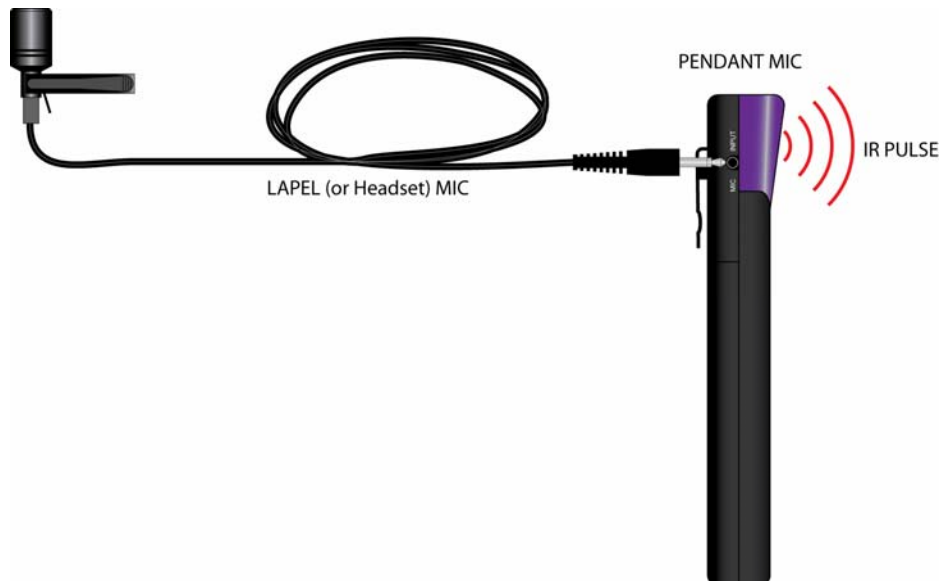

Figure 16. Using the Lapel Mic and Pendant
3. If using the **Lapel** or **Headset Mic**, connect to the **Pendant** as shown in **Figure 16**. Be sure the **Pendant** is pointing toward the **IR Sensors** so the **IR Pulses** from the **Pendant** will be 'seen' by the **IR Sensors**.